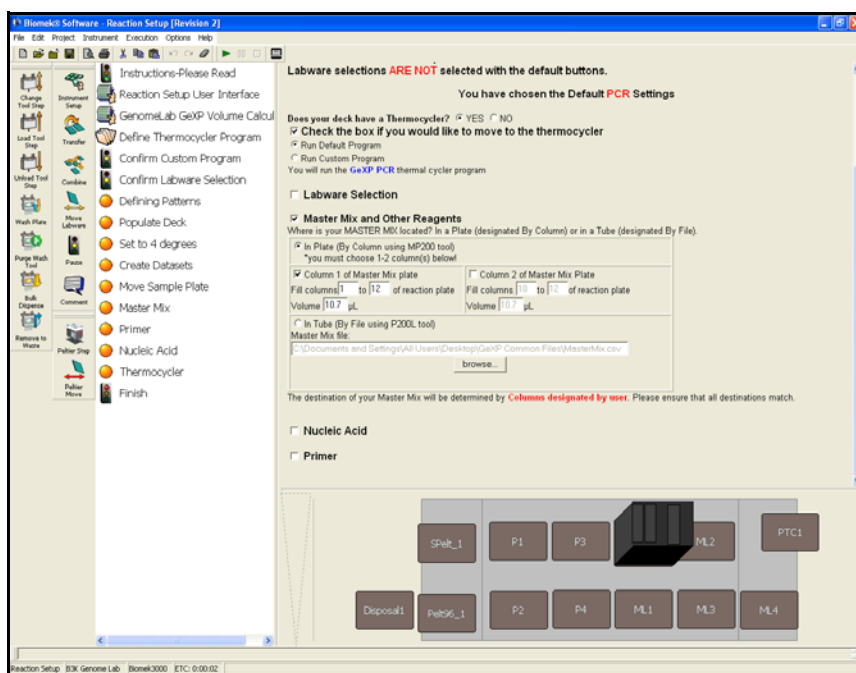

Figure 1-11. Reaction Setup User Interface step with Master Mix options displayed
1. Select **Master Mix and Other Reagents** to display the master mix options (Figure 1-11).